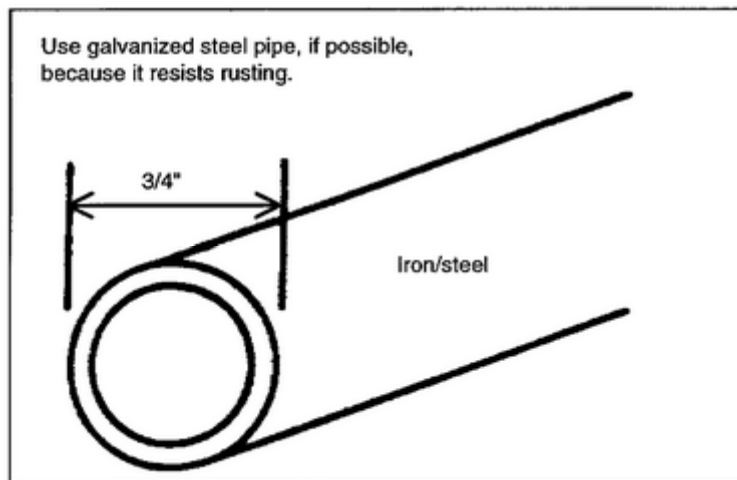

Figure 1-5. Iron/steel (galvanized) grounding rod
- d. An iron/steel (galvanized) grounding rod is at least 3/4 inch in diameter (Figure 1-5).